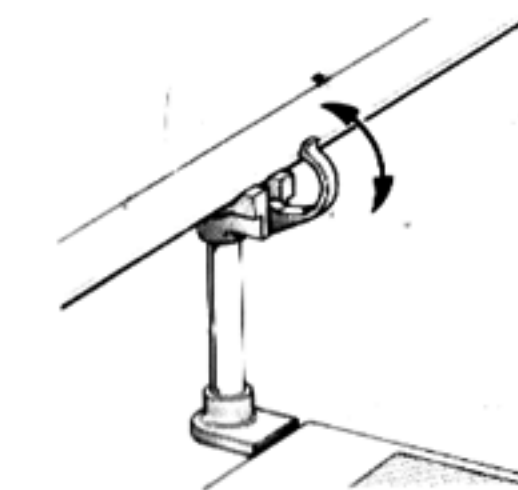

Fig. 7b
- 3 Switch to 'On'. Release the pickup arm from its rest by moving the safety catch (7.2) aside. See also Fig. 7b.